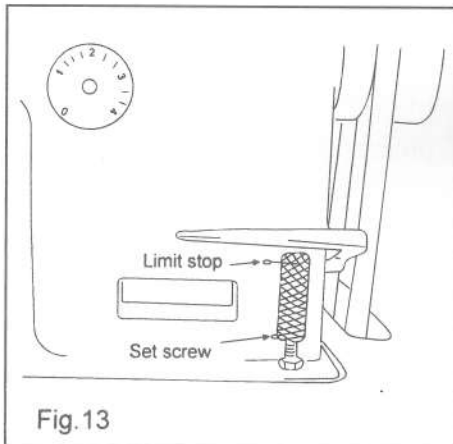

Fig.13
11. To adjust stitch length (Fig.13)